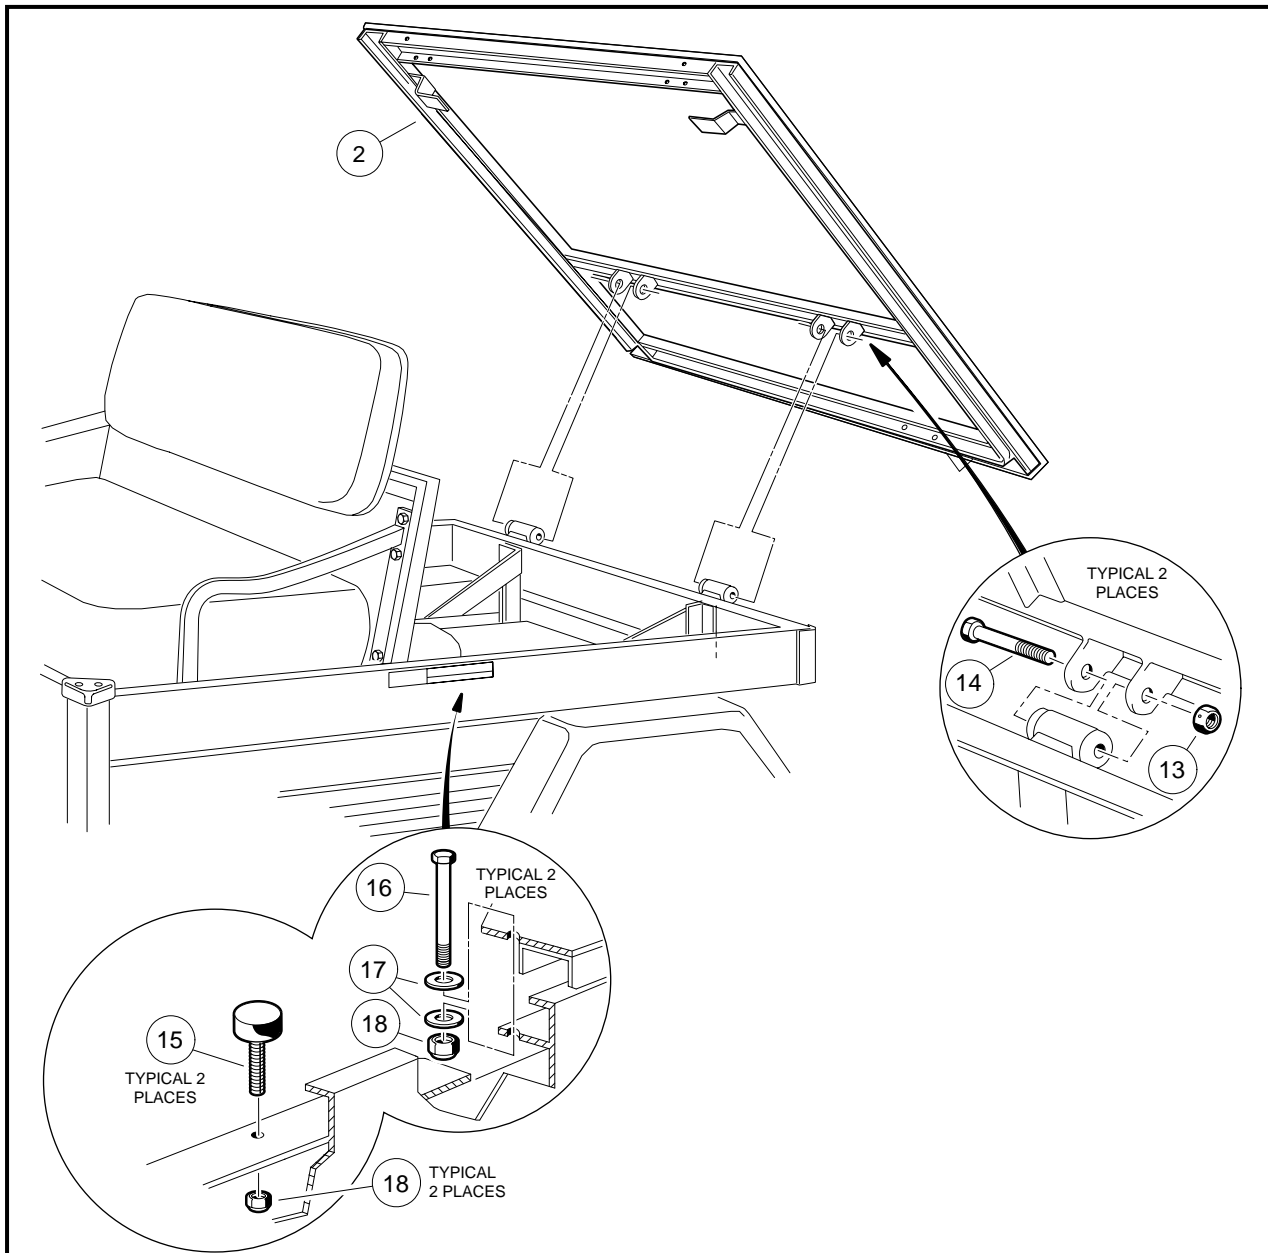

Figure 4-12 Flat Bed – TransPorter 4
1. Remove the two bolts (16), washers (17) and lock nuts (18) that secure the front of the flat bed to the vehicle body (**Figure 4-12, Page 4-14**).
2. Remove the two locknuts (13) from left and right hand flat bed hinge assemblies (**Figure 4-12, Page 4-14**).
3. Apply slight upward pressure (by hand) on the rear of the bed to relieve pressure on the hinges and remove the hinge bolts (14) from the hinge assemblies (**Figure 4-12, Page 4-14**).
4. Lift the flat bed from the vehicle (**Figure 4-12, Page 4-14**).
2. Tighten the bolts (16) and lock nuts (18) to 15 ft-lb (20.3 N·m) (**Figure 4-12, Page 4-14**).
3. Tighten the bolts (14) and lock nuts (13) to 20 ft-lb (27 N·m) (**Figure 4-12, Page 4-14**).